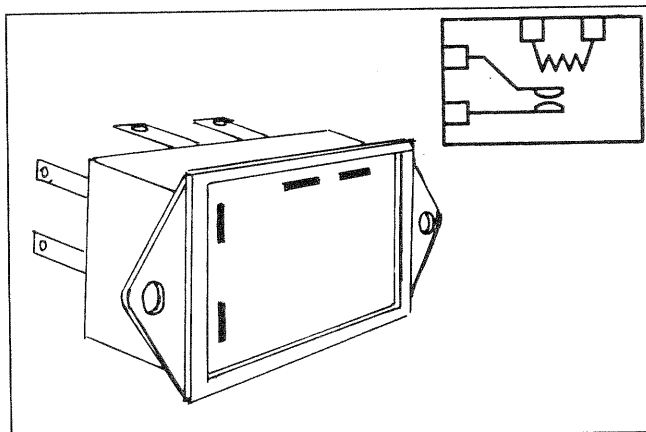

Figure 197. Time Delay Relay
- A time delay relay (Figure 197).